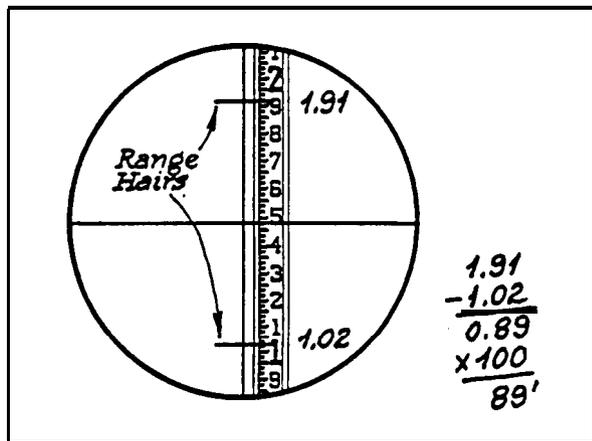

Fig. 4.24
c. Reading Stadia Rods and Computing Range. As you look through most transit telescopes, you will notice two small cross hairs on the vertical line of the reticle--one above and one below the horizontal line (see Fig. 4.24). These hairs are used to read figures on stadia rods for computation of range. Stadia rods come graduated in decimal feet (tenths and hundredths of a foot) or feet and inches (12 inches to the foot). Before you proceed, examine your stadia rod to see which kind you have, or your results will be erroneous.